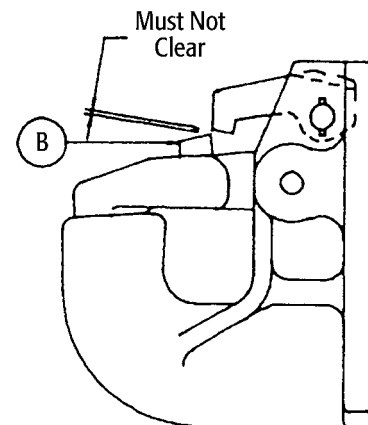

Fig. 3
1. Grasp the Lock Actuator (7) and without compressing the Spring (6) rotate the Actuator handle to lift the Lock (3) until it stops against the Body undercut (A). The "tooth" of the Lock must not clear the stop (B) on top of the Jaw (4). If the lock clears the stop (B) as shown in Fig. 3.
- a. Inspect the undercut (A) on the Body, if the undercut is not clean and square the entire hook should be replaced.